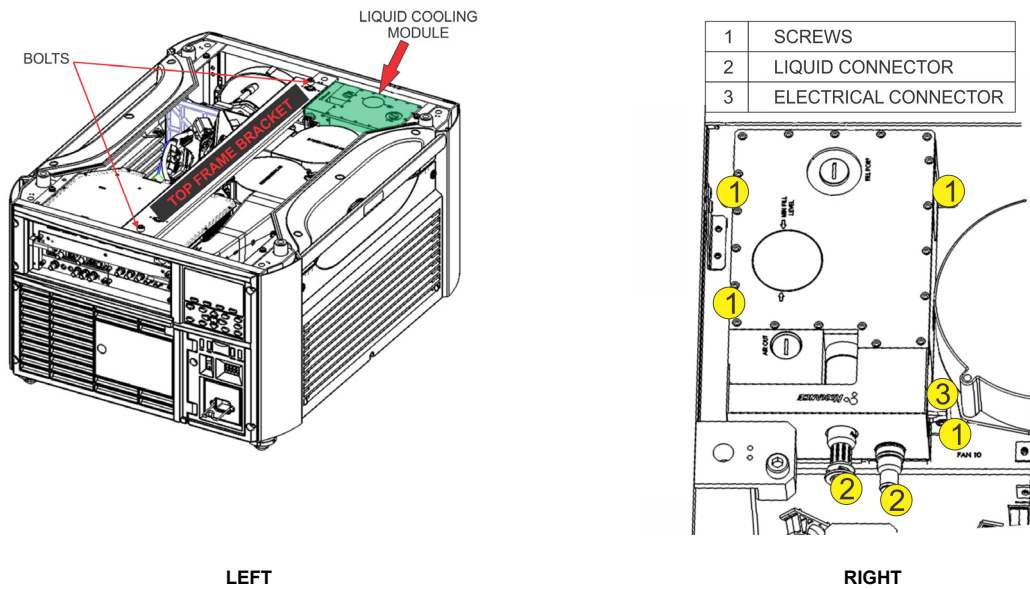

FIGURE 5-12
1. Using a 6mm hex driver or Allen key, remove the 2 bolts securing the top frame bracket. Refer to *Figure 5-12* (LEFT).
4. Using a 3mm hex driver or Allen key, remove the 4 screws securing the liquid coolant module to the projector. Refer to *Figure 5-12* (RIGHT).